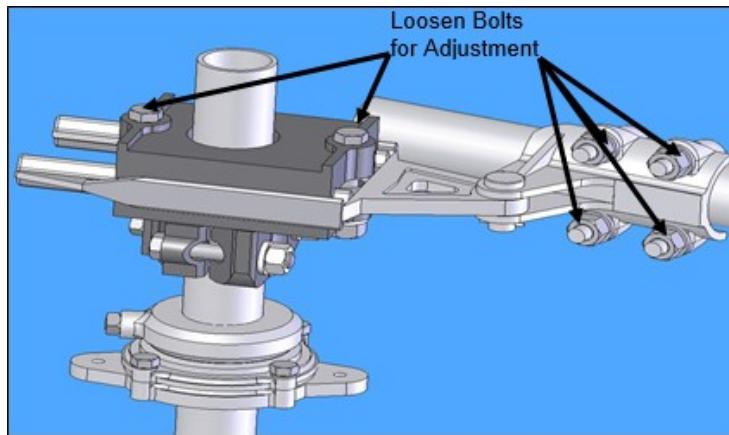

Figure 17: Adjustable Arm Assembly
- 4.3 If the switch **does not** fully open before the operator reaches the fully open position, the adjustable arm radius is too short. Close the switch, match-mark the adjustable arm and the pipe clevis, and loosen the bolts on the adjustable arm and pipe clevis. **Lengthen the adjustable radius arm approximately 1/4". Allow the pipe clevis to reposition itself the same 1/4".** Refer to **Figure 17**. Test operation and readjust as necessary.